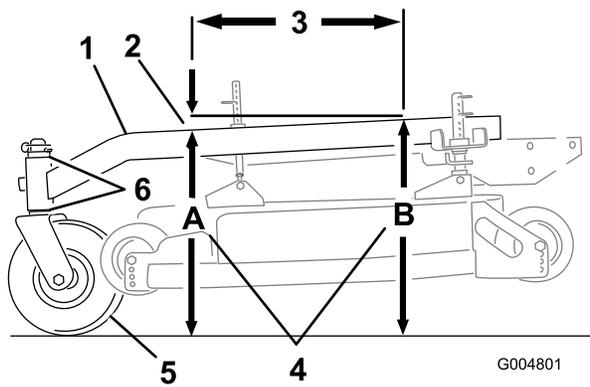

Figure 71
The carrier frame must have a pitch between 1/8 inch (3 mm) to 3/8 inch (9 mm) over the length of 24 inches (61 cm) on the carrier frame (Figure 71).
1. Measure out 24 inches (61 cm) on the carrier frame (Figure 71).
2. Measure carrier frame height at location **A** (Figure 71).
3. Measure carrier frame height at location **B** (Figure 71).
4. The height at location **A** must be an 1/8-3/8 inch (3 mm -10 mm) lower than location **B** (Figure 71).
5. If the carrier frame is not correct, move caster spacers to make it an 1/8-3/8 inch (3 -10 mm) pitch (Figure 71). Move spacers from top or bottom to make the correct pitch.